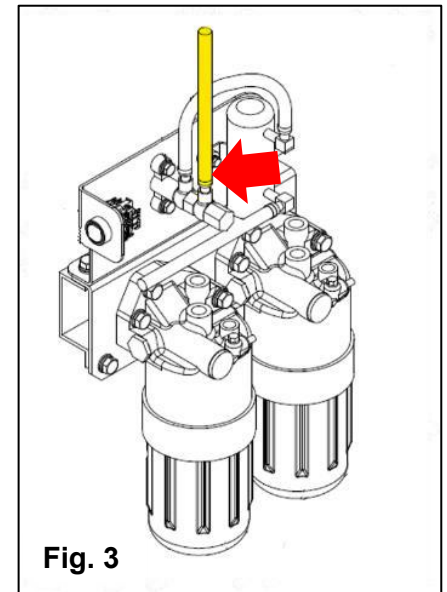

Fig. 3
- d. Install the 39.3" suction hose with spring clamp on at the Fuel Air Purge Kit check valve, Ref. Fig. 3.